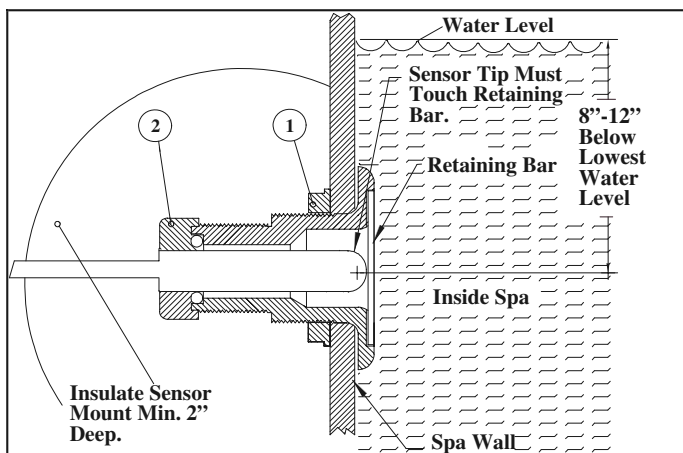

Figure 1: Balboa sensor mount assembly
2. Install Balboa sensor mount body from the inside of the spa using silicone as sealant. Make sure contents of silicone are compatible with polycarbonate materials, such as GE RTV6800 series or equivalent (i.e. does not contain methylethylketone, acetic acid, etc.). See Figure 1.